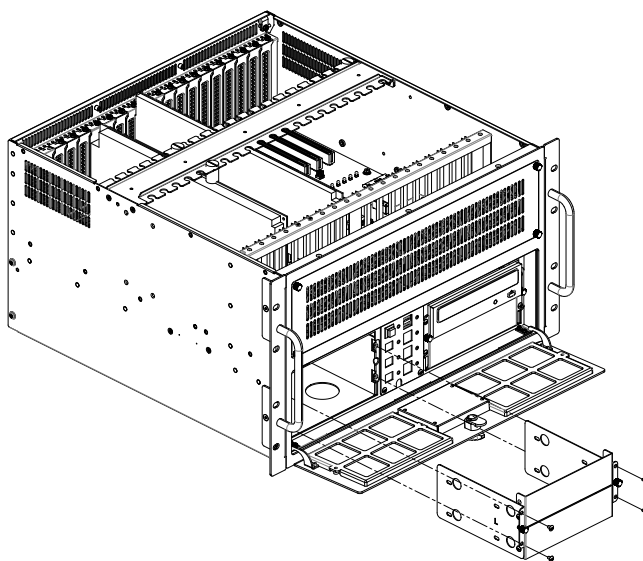

Figure 2.5 Disk drive housing removal
1. Unscrew the four screws on the front of the disk drive shield. Hold the two thumb screws to remove the disk drive housing (Figure 2.5).